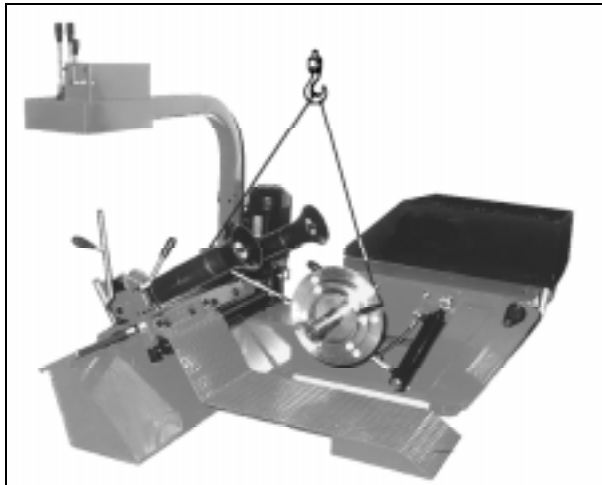

Fig.12
- C.** Remove the screws that secure the machine to the pallet . Lift the machine with a belt or a rope of appropriate strength and length (300 cm - 10') (Fig.12).